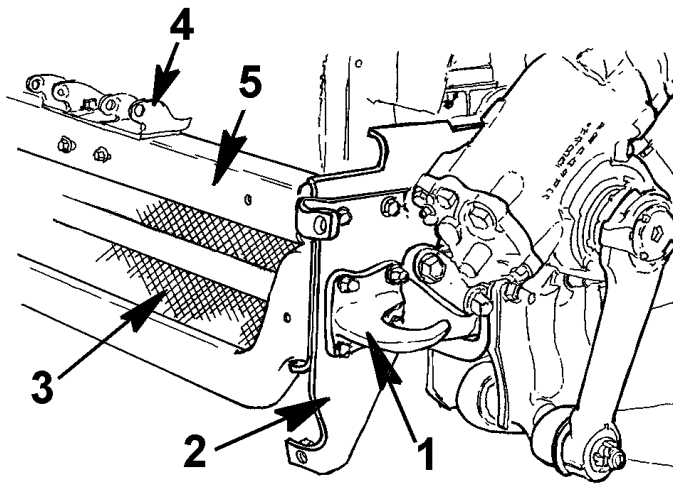
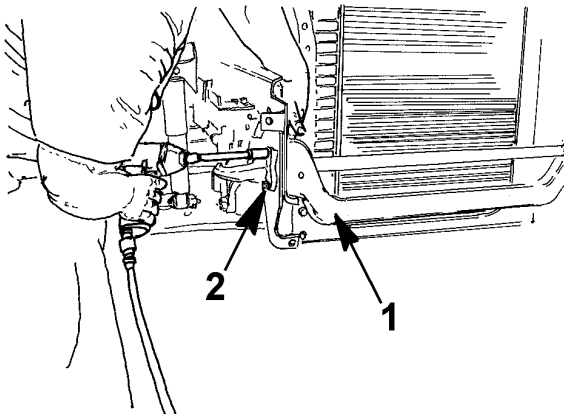

Figure 2 Front Cross-Member
Figure 4 Front Cross-member Removal
2. After removing screen assembly, locate the cross-member mounting bolts for the front tow hooks (Item 1, Figure 2). Loosen and remove bolts and tow hook (Item 2, Figure 4).
3. Remove bumper mounting bracket bolts located above the tow hook bolt holes. Remove the bumper mounting bracket (Item 2, Figure 2). Follow the same procedure to remove opposite side mounting bolts.